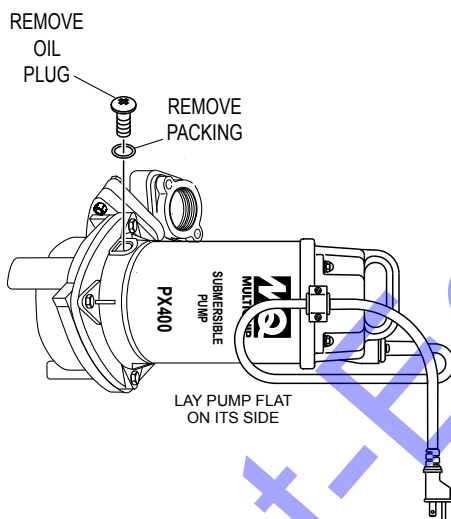

Figure 17. Checking Lubrication Oil Level
1. Lay pump flat on its side (PX400 only) as shown in Figure 17.